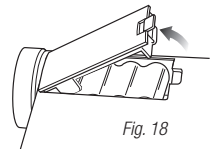

Fig. 18
- 3 Push in the locking tab and lift off the battery compartment cover. (fig. 18)